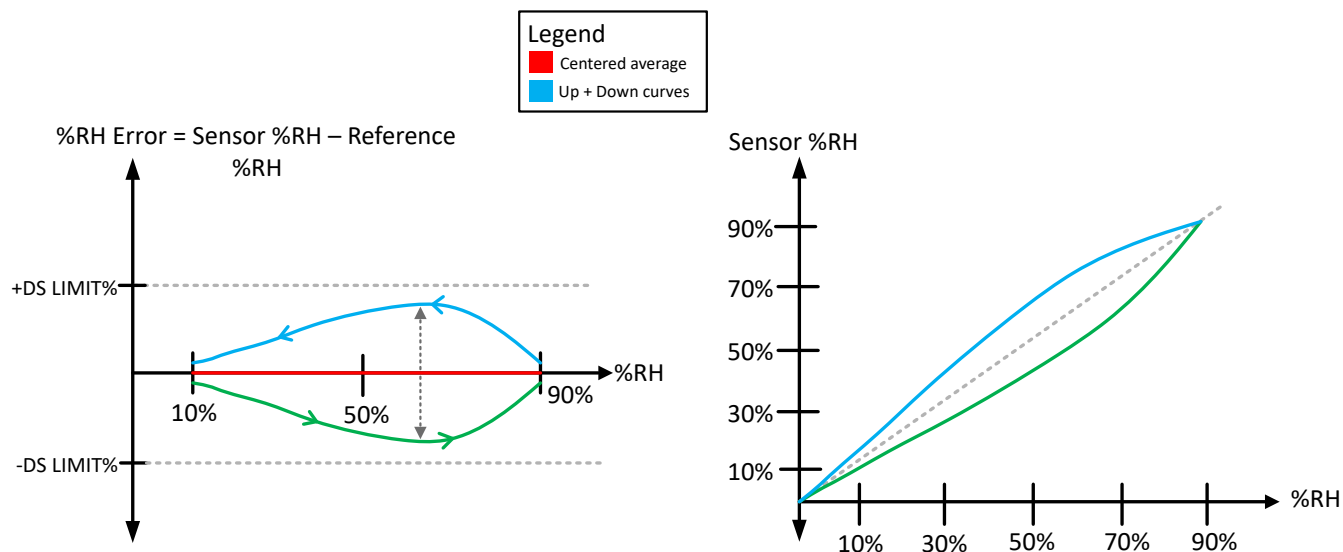

Figure 2-2. RH Hysteresis Example
- RH Hysteresis:** the difference between the *up curve* (RH error as ambient RH increases) or *down curve* (RH error as ambient RH decreases) and the centered average of the up and down curves. Positive RH hysteresis is the gap between the centered average and the down curve, negative RH hysteresis is the gap between the centered average and the up curve. Hysteresis occurs because the sensing polymer has a memory of the humidity conditions this has seen before. Hence the RH sensor's RH error will be slightly negative when previously exposed to low RH conditions, and slightly positive when previously exposed to high RH conditions. The exact shape of the RH hysteresis can change with different ambient temperatures. Figure 2-2 shows two different views of the "up & down" curves, one for RH error vs reference RH, and the other shows measured RH vs reference RH.